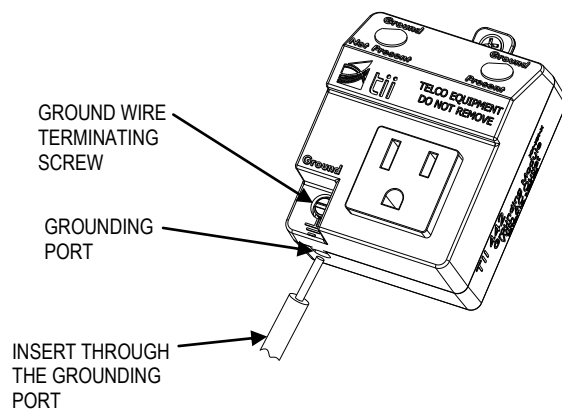

Figure 1
1. The TII 442 Grounding Module with AC outlet provides a ground connection point, a 15A AC outlet as well as a ground detection circuit. In a typical installation the TII 442 is plugged into a wall outlet and a ground connection is accomplished by terminating the grounding conductor through the grounding port (See Figure 1).
3. Unscrew the grounding wire terminating screw until the grounding wire can be inserted (See Figure 1).
4. Strip back about 0.5 inch of insulation from the grounding wire. Insert the grounding wire into the grounding port hole. Tighten terminating screw (See Figure 1).